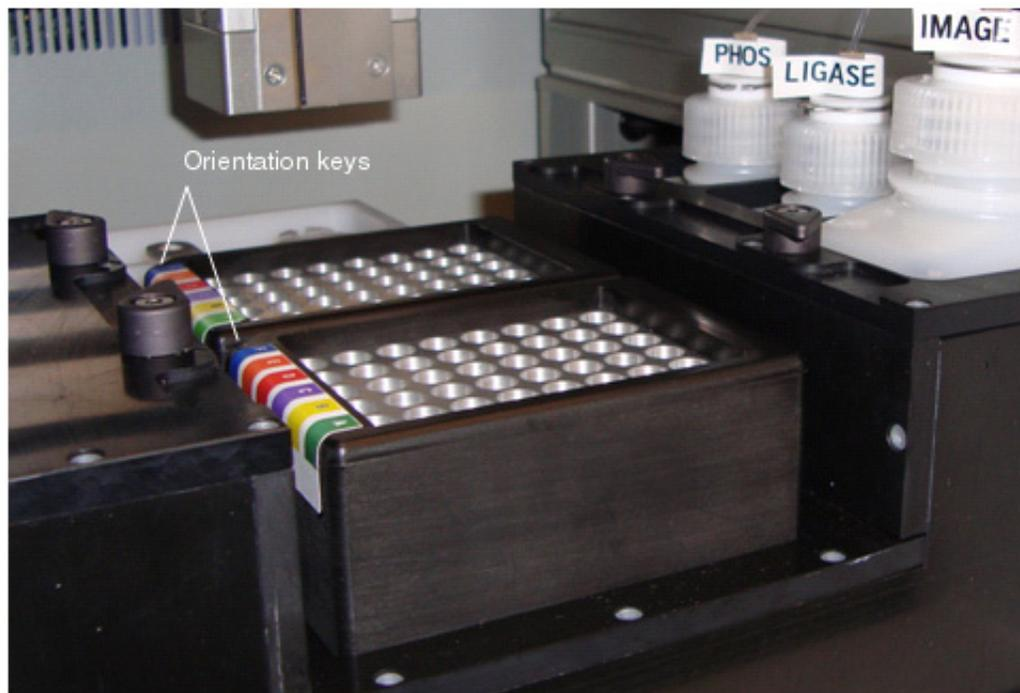

Figure 30 The Reagent Strip Block.
4. Verify that the reagent strip blocks are oriented and seated properly in the chiller block. The block must engage the orientation key to fit properly. The orientation key (cut corner) is in the upper-left position when the block is placed on the instrument (see Figure 30 on page 38).